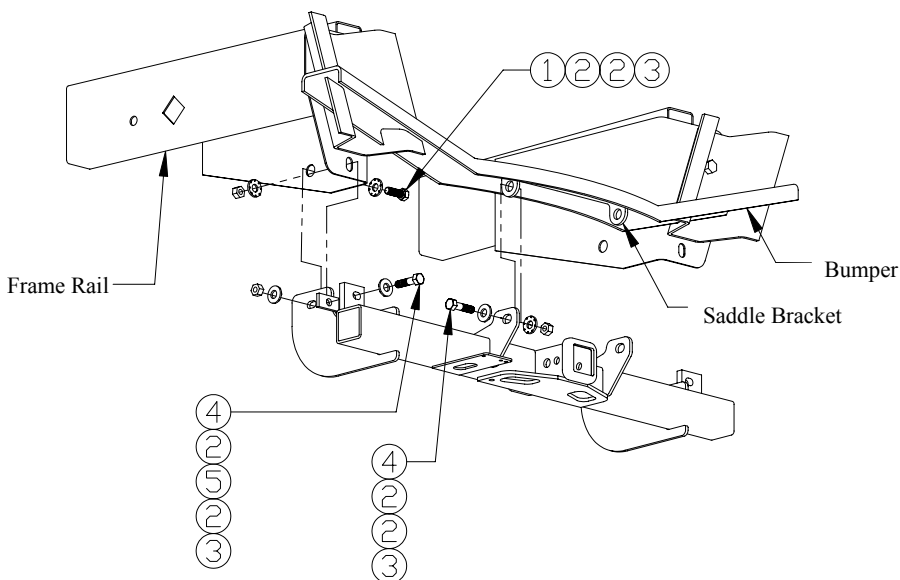

FIGURE 1
①	Qty. (2)	Hex Bolt, 1/2"-13 x 1-1/2"	④	Qty. (4)	Hex Bolt, 1/2"-13 x 2"
②	Qty. (12)	Conical Washer, 1/2"	⑤	Qty. (2)	Spacer, 1/4" x 1" x 2"
③	Qty. (6)	Nut, 1/2"
1. Raise hitch into position as shown in Figure 1.